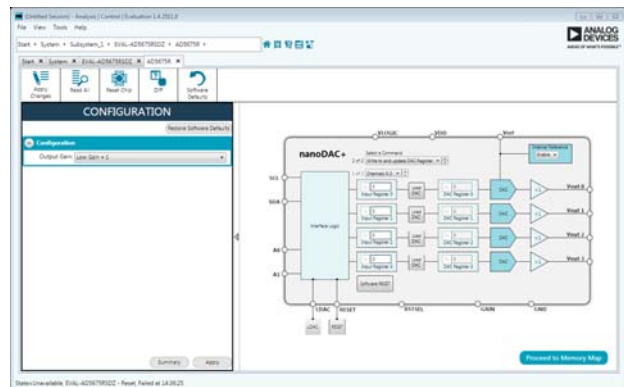

Figure 3. Chip Block Diagram view for the AD5675R
5. The chip block diagram can be accessed by double-clicking on the AD5675 or AD5675R chip. This view provides a basic representation of functionality of the board. The main functions are labeled in Figure 3.